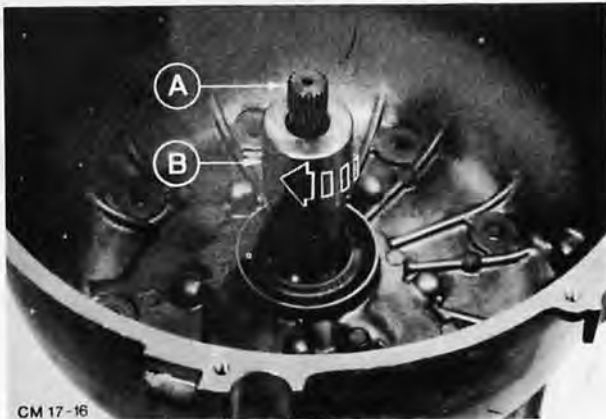

Fig. 121. Centring of converter housing/pump using Special Tool 17-009-01
47. Fig. 121. Screw up the bolts fixing the hydraulic pump finger tight at first, and apply tool 17-009-01 far enough to cause the stub to engage in the hydraulic pump.